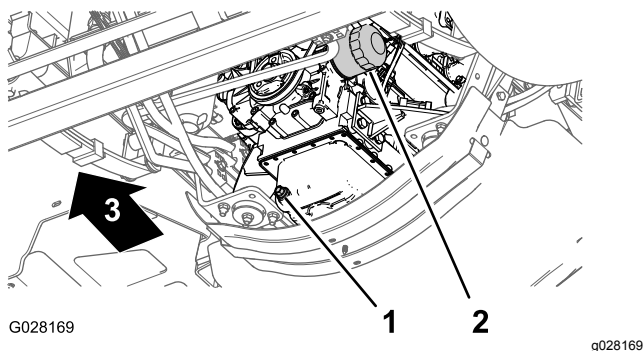

Figure 71
3. Align a drain pan under the engine-oil filter (Figure 71).
4. Remove the old oil filter (Figure 71).
8. Install the oil filter to the filter adapter, turn the oil filter clockwise until the rubber gasket contacts the filter adapter, and then tighten the filter an additional 1/2 turn (Figure 71).
1. Align a drain pan under the drain plug (Figure 71).
2. Remove the drain plug (Figure 71) and allow the oil to drain completely.